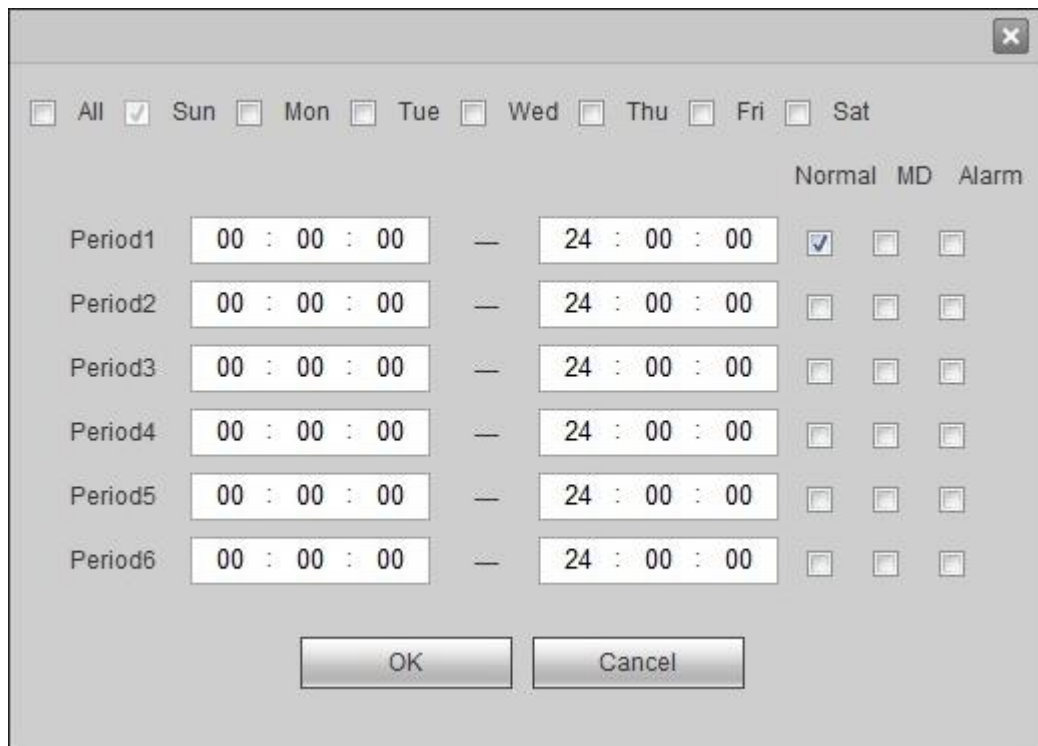

Figure 4-56
1. Select corresponding week and click "Setup". The system pops up Figure 4-56.